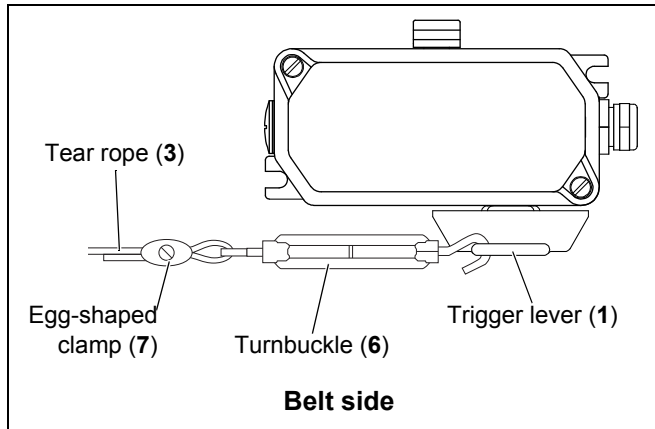

Fig. 5-8: Attaching the turnbuckle
9. Release the tension of one turnbuckle (6) completely (see fig. 5-8).
10. Put one end of the tear rope (3) through the eye of the turnbuckle (6) and hook the turnbuckle (6) into the trigger lever (1).